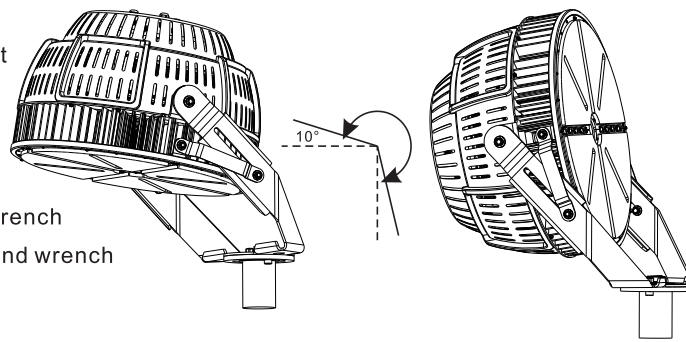

Figure 10
4. According to the need, carry out the projection angle adjustment, angle adjustment range (Figure 10);